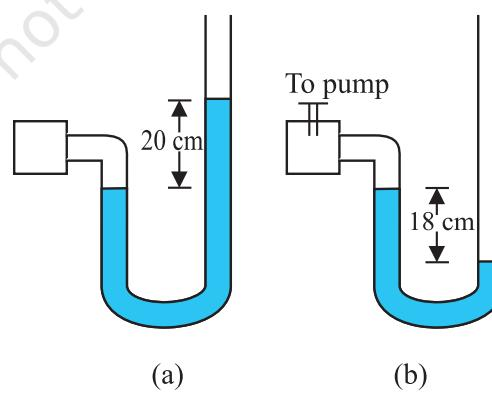

Fig. 10.25
- 10.22** A manometer reads the pressure of a gas in an enclosure as shown in Fig. 10.25 (a). When a pump removes some of the gas, the manometer reads as in Fig. 10.25 (b). The liquid used in the manometers is mercury and the atmospheric pressure is 76 cm of mercury.